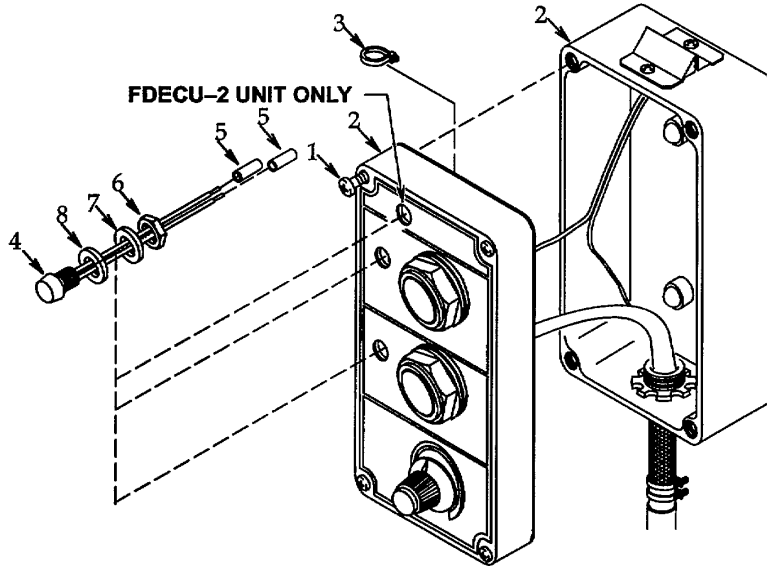

Figure 4-37. Light Emitting Diodes (FDECU-2 DS1 thru DS3) (Units After FDECU-2 DS2 ad DS3).
- a. **Removal.** See figure 4-37.
- (1) Shutdown the FDECU per paragraph 2.4 and disconnect it from power source.
- (2) Loosen four captive screws (1) then separate remote box (2) halves and lay it open being careful not to damage wire leads.
- (3) Cut and remove two tiedown straps (3) securing light emitting diode (4) leads. Discard tiedown straps.
- (4) Tag and cut light emitting diode (4) leads at solder connections. Remove and discard insulation sleeving (5) pieces from wire lead ends.
- (5) Remove nut (6), lock washer (7), light emitting diode (4) and sealing washer (8).
- b. **Installation.** See figure 4-37.
- (1) Be sure sealing washer (8) is on light emitting diode (4) then install light emitting diode and secure using lock washer (7) and nut (6).